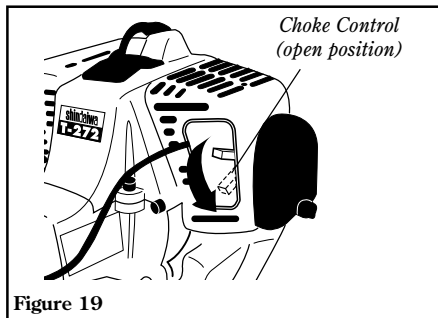

Figure 19
- When the engine starts, slowly move the choke lever to the "OPEN" position. See Figure 19. (If the engine stops after the initial start, close the choke and restart.)